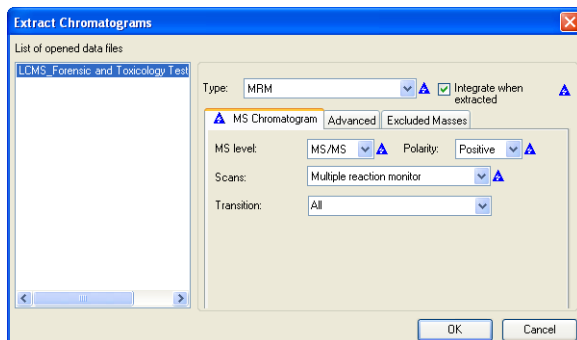

Figure 3 Extract Chromatograms dialog box
- b Set **Transition** to **All**. See Figure 3.